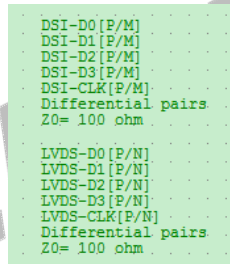

Figure 2-55 The Trace Impedance Requirement of LVDS/MIPI-DSI
- Mark the trace impedance requirements of LVDS/MIPI DSI signal lines in the schematic diagram to facilitate PCB layout design, as shown in Figure 2-55.